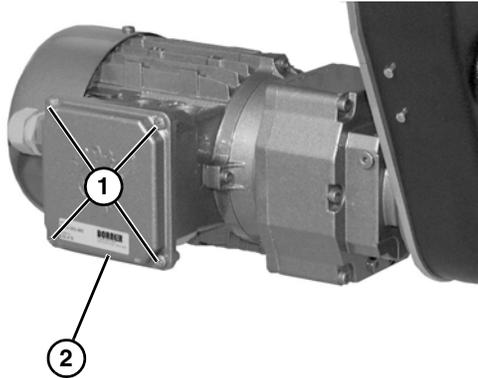

Figure 19
1. Loosen terminal box screws (**Figure 19, item 1**) and remove cover (**Figure 19, item 2**).